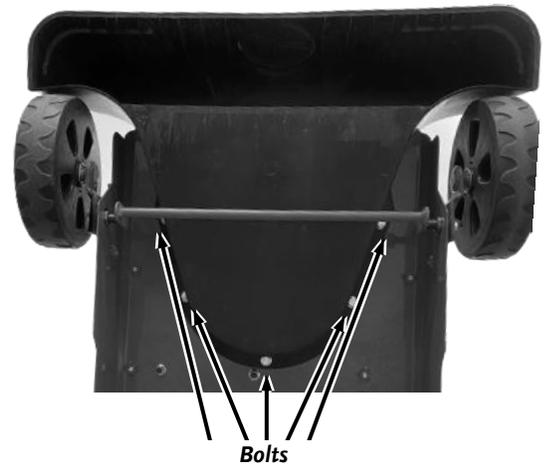

Figure 28
1. Remove the five Bolts underneath the Vacuum Snout and two Bolts on top that secure the Snout to the Frame using a 1/2" Wrench (**Figure 28**). Remove the Snout.